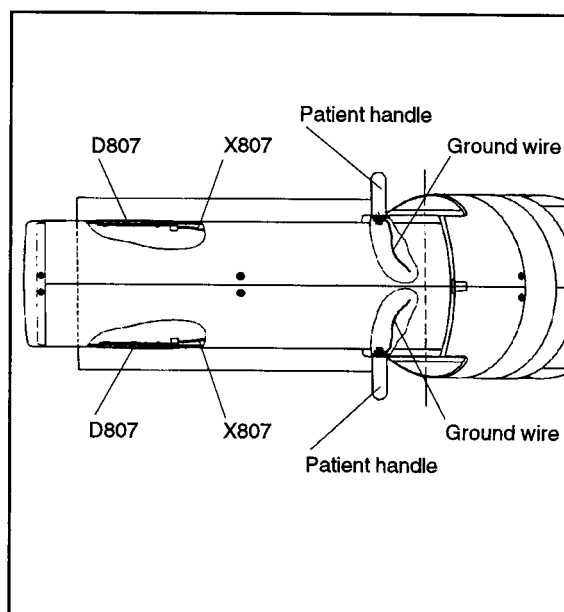

Fig. 4
- Before removing the cover half, disconnect plug X807 and the ground wire, see Fig. 4.